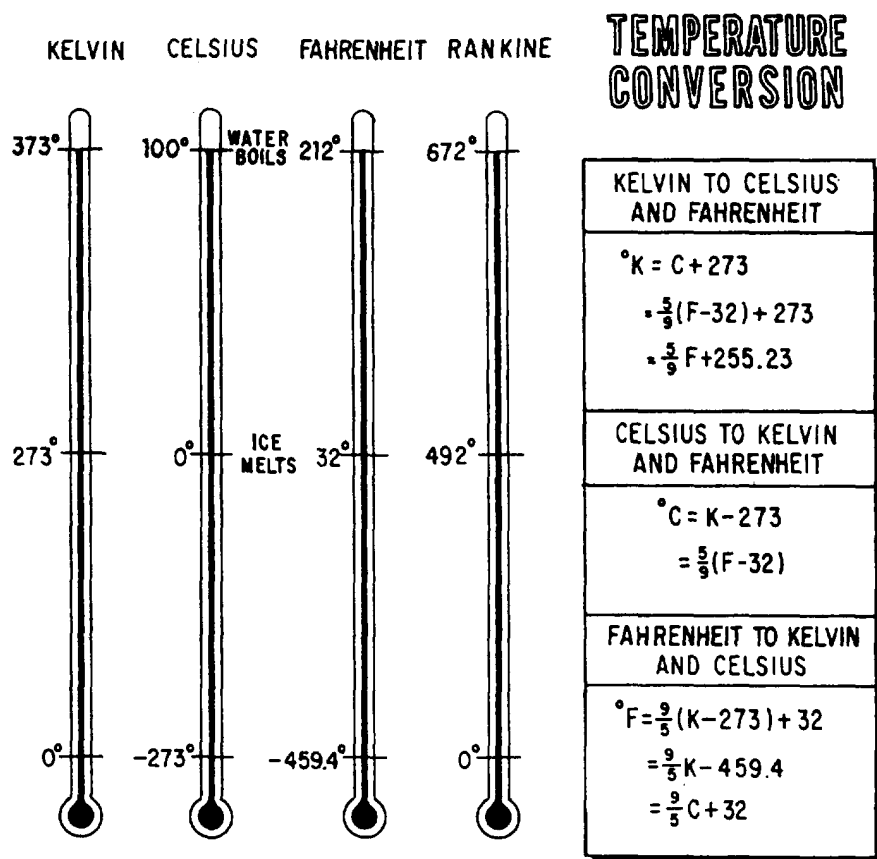

Figure 11-1.-Comparison of Kelvin, Celsius, Fahrenheit, and Rankine temperature.
When you work with temperatures, always be sure which system of measurement is being used and how to convert from one to another. The conversion formulas are shown in figure 11-1. For purposes of calculations, the Rankine (R) scale illustrated in figure 11-1 is commonly used to